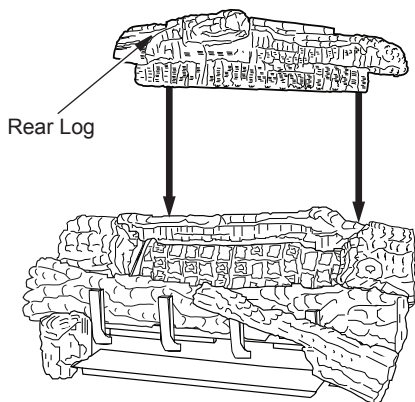

Figure 44 - Installing Rear Log
9. Rest the rear log (18" D-069, 24" & 30" D-043) on the chassis behind the rear burner as shown in Figure 44. The bottom of the rear log will sit into the rear log supports.